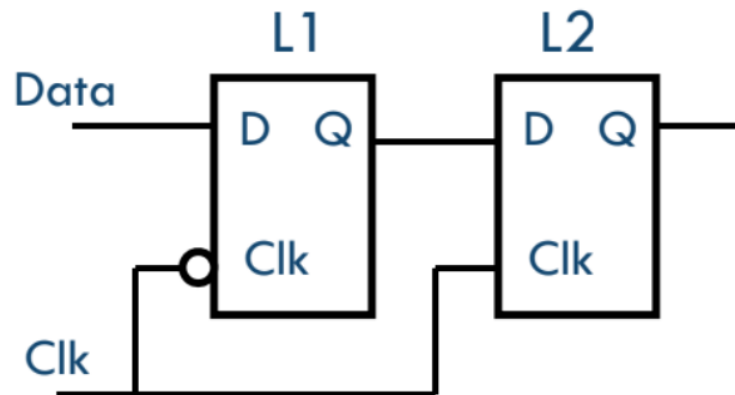

Figure 13: flip-flop
c) We build a flip-flop (figure 13) with two dynamic latches. Is the flip-flop positive-edge triggered or negative-edge triggered?